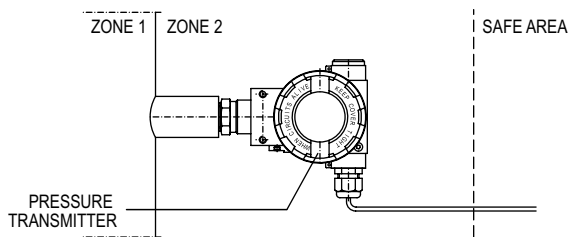

Figure 1
The ATEX category 1/2G (1/2D) and IECEx Equipment Protection Level (EPL) Ga/Gb means that the transmitter may be installed within Type 1 (21) or Type 2 (22) hazardous zones. The transmitter process connections may connect to a Type 0 (20) zone type (see the Appendix II Figure 1 below for an example).